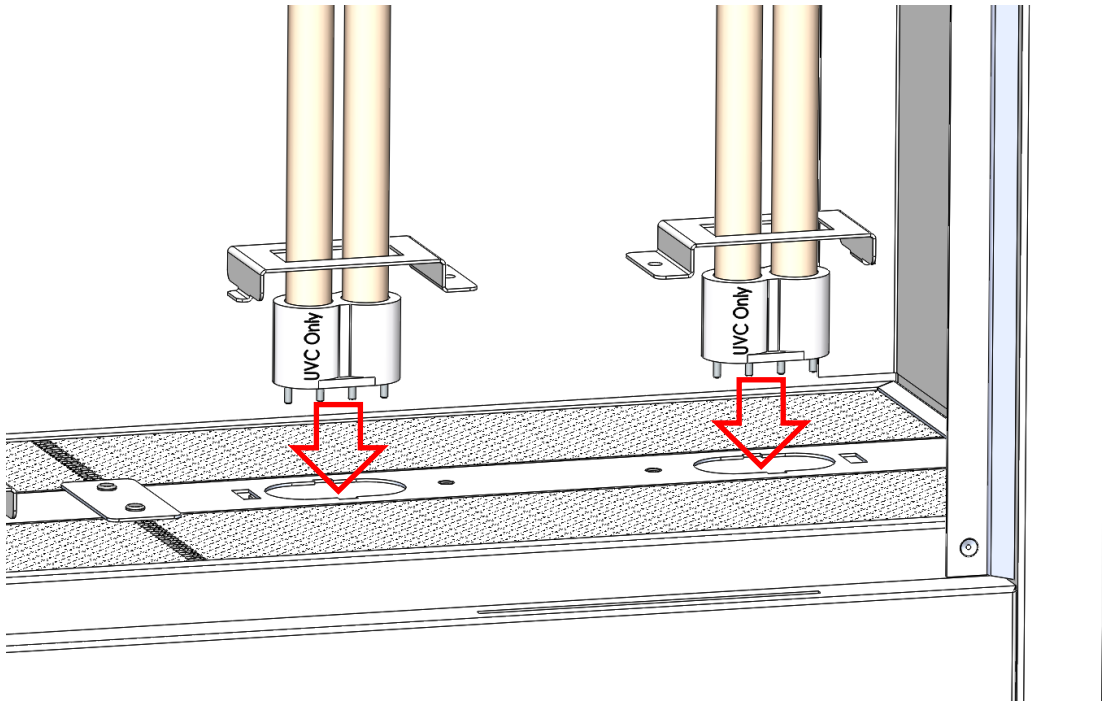

Figure 22: Install Bulbs into Sockets
- 11) Hold replacement bulbs by the ceramic end and push the pins into the slots in the receptacle. See Figure 22.